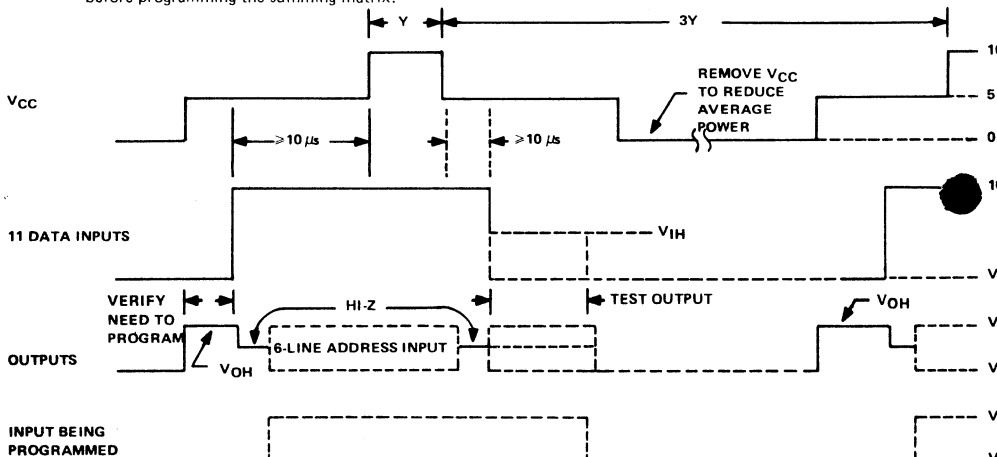

FIGURE 3 – AND MATRIX PRODUCT TERM PROGRAMMING SEQUENCE
After programming the OR matrix, the product terms can be shortened by readdressing each and programming the added inputs to a "don't care". The AND/ $\overline{\text{AND}}$  matrix is programmed one fuse at a time by addressing the term in accordance with Table II and fusing the input while applying the logic level desired to be active. See Figure 3.
1. Apply steady-state supply ( $V_{CC} = 5\text{ V}$ ) and disable the outputs by applying 10.5 volts to the 12 data inputs. See Figure 3.
4.  $V_{CC}$  should be removed between program-pulses to reduce dissipation and chip temperatures. See Figure 3.